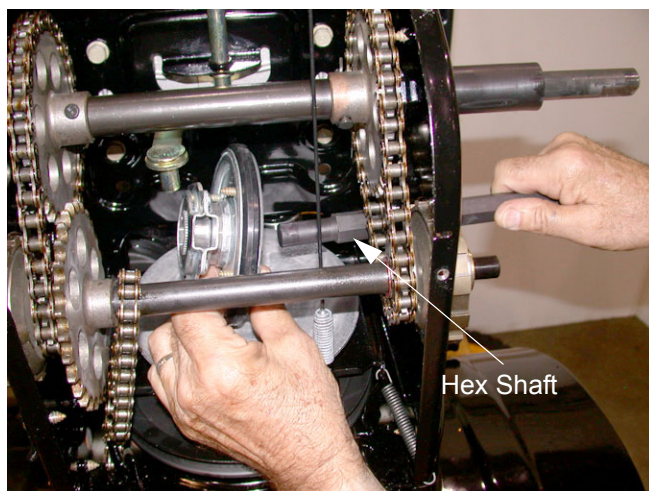

Figure 23
10.11. Catch the bearing, sprocket and friction wheel as they come off the shaft. See Figure 23.